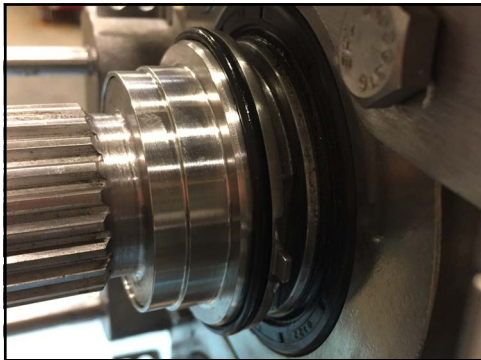

Figure 202 - O-ring installed
21. Figure 202 shows the rotary seal O-ring installed on the shaft.